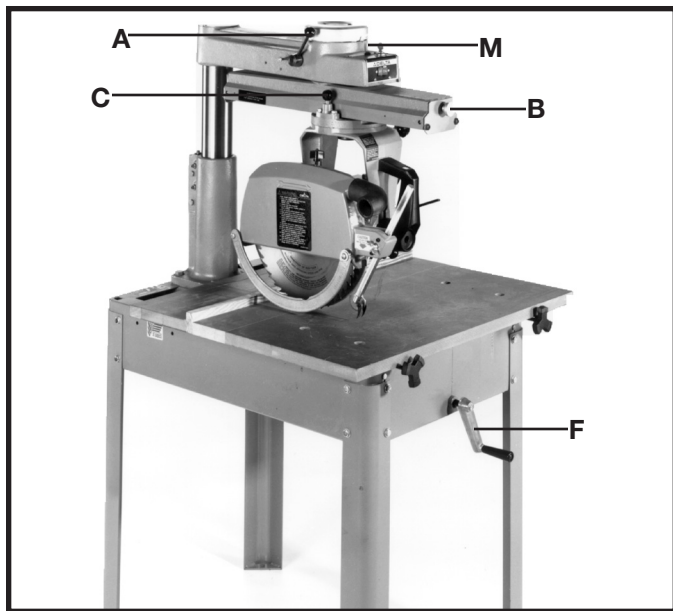
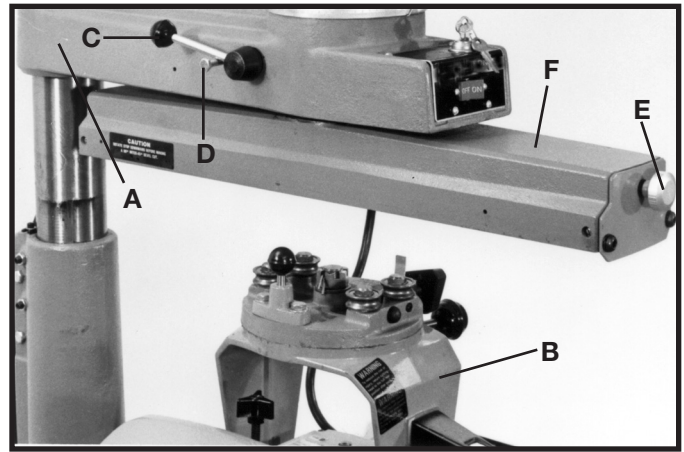
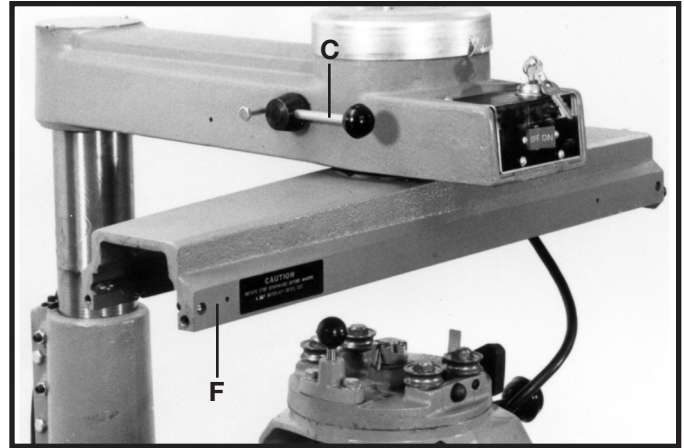

Fig. 2
Fig. 7
Fig. 8
A – TRACK ARM CLAMP KNOB. Controls swing of track arm for all miter cutting operations. Locks track arm at any angle for the full 360° rotation. To rotate track arm loosen clamp knob and rotate arm. The arm will stop at the 0° and 45° positions right and left. To move the arm past these points the track arm index knob (B) must be pulled out. (Fig. 2)
B – TRACK ARM INDEX KNOB. Locates 0° and 45° position, right and left, of the track arm. (Fig. 2)
C – YOKE INDEX LEVER. Locates each 90° position of the yoke for ripping or cross-cutting operations. When rotating the yoke the yoke clamp handle must first be loose. (Fig. 2)
F – OVERARM ELEVATING HANDLE. Controls the depth of cut in all operations. Turning the handle raises or lowers the overarm. (Fig. 2)
M – MITER SCALE. Indicates degrees left and right for setting track arm. (Fig. 2)
1. Raise the track arm assembly (A) Fig. 7, by turning overarm elevating handle (F) Fig. 2.
2. Remove packing material from around cuttinghead assembly (B) Fig. 7.
3. Push track arm clamp lever (C) Fig. 7, to the rear until it rests against stop (D) as shown.
4. Pull out on track arm index knob (E) Fig. 7, and rotate track arm (F) 90° to the position shown in Fig. 8. Tighten track arm clamp lever (C) Fig. 8, by pulling it to front position.